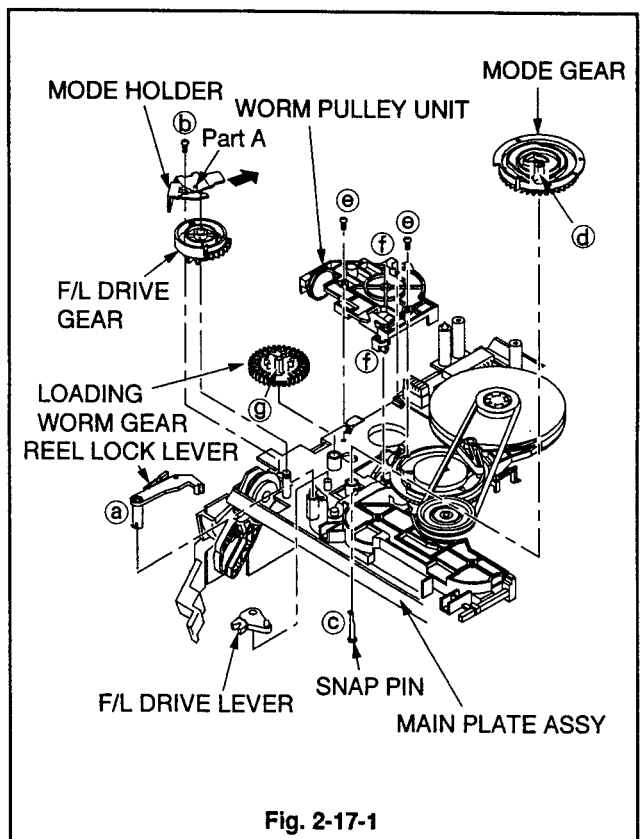

Fig. 2-17-1
1. Use tweezers to unfasten Catch (a) on the surface of the REEL LOCK LEVER shown in Fig. 2-17-1, and remove the REEL LOCK LEVER.
2. Remove the MODE HOLDER fastening screw (b) shown in Fig. 2-17-1, and remove the MODE HOLDER.
3. Use tweezers to unfasten Catch (c) of the SNAP PIN shown in Fig. 2-17-1, and remove the SNAP PIN.
4. Use tweezers to Unfasten Catch (d) on the surface of the MODE GEAR, shown in Fig. 2-17-1, and remove the MODE GEAR.
5. Remove the F/L DRIVE GEAR, shown in Fig. 2-17-1, from the shaft of the MAIN PLATE ASSY.
6. Remove the F/L DRIVE LEVER shown in Fig. 2-17-1.
7. Remove the two WORM PULLEY UNIT fastening screws (⊙) shown in Fig. 2-17-1.
9. Unfasten the two Catches (Ⓣ) of the WORM PULLEY UNIT shown in Fig. 2-17-1 to remove the WORM PULLEY UNIT.
10. Unfasten the Catch (⊙) on the surface of the LOADING WORM GEAR, shown in Fig. 2-17-1, and remove the LOADING WORM GEAR.
2. Install the LOADING WORM GEAR shown in Fig. 2-17-1.
6. Install the F/L DRIVE LEVER shown in Fig. 2-17-1.
15. Push the SNAP PIN, shown in Fig. 2-17-1, into the centre hole of the MODE GEAR.
16. Move the MODE HOLDER shown in Fig. 2-17-1, in the direction shown by arrow so that the Part A is fixed to the shaft of the MAIN PLATE ASSY and install it.